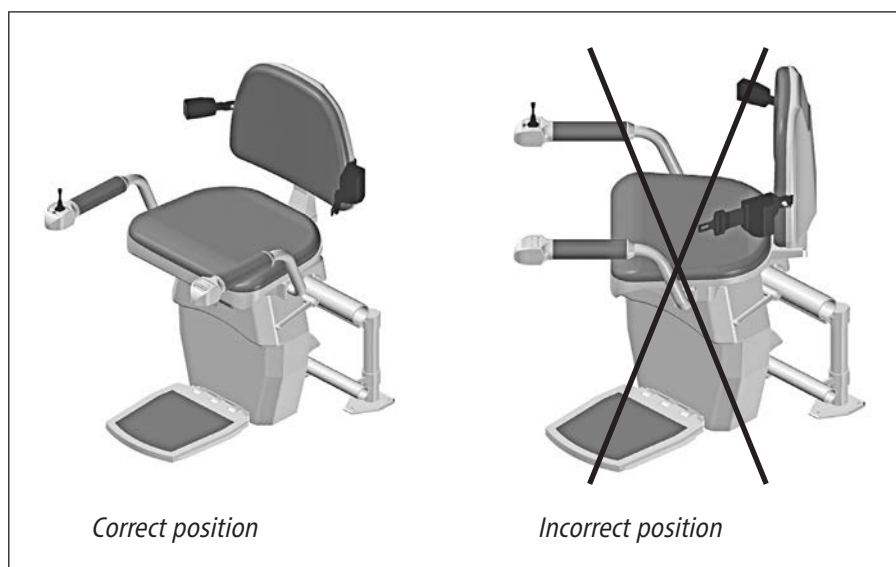

Fig. 6
- to return the backrest and seat in normal travel position fig. 6, press the same button on the reverse side.
- check that both the seat and arms are used in the correct travel position according to fig. 6.